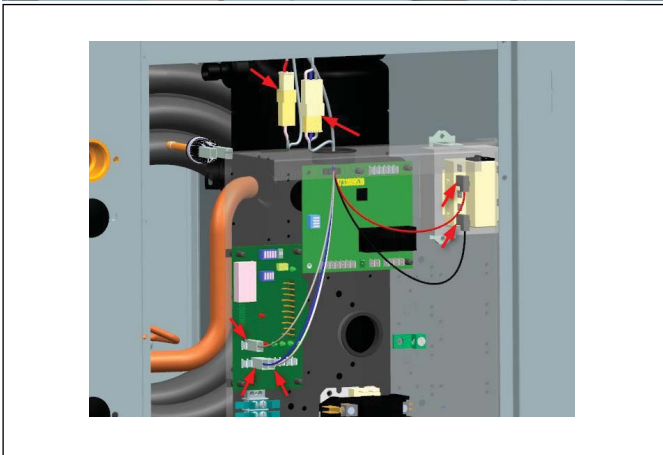

Figure 39
- The Unit Control Box wiring should look as shown in figure 39.